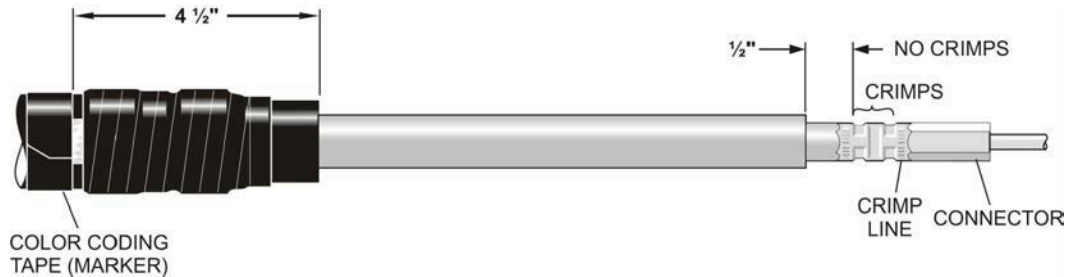

FIGURE 6
STEP 20: HOLD THE CONNECTOR FIRMLY AGAINST THE END OF THE CABLE AND CRIMP IT ONTO THE CONDUCTOR USING THE APPROPRIATE DIE. BEGIN CRIMPING JUST BELOW THE CRIMP LINE AND WORK TOWARD THE CABLE INSULATION. MAKE THE APPROPRIATE NUMBER OF CRIMPS, BUT DO NOT CRIMP THE BOTTOM 1/2" OF THESE CONNECTORS. ROTATE CRIMPS TO PREVENT THE CONNECTOR FROM BOWING. SEE **FIGURE 6**. REMOVE ANY EXCESS INHIBITOR OR SHARP FLASH. CRIMPING INFORMATION IS PROVIDED IN **TABLE 4**.